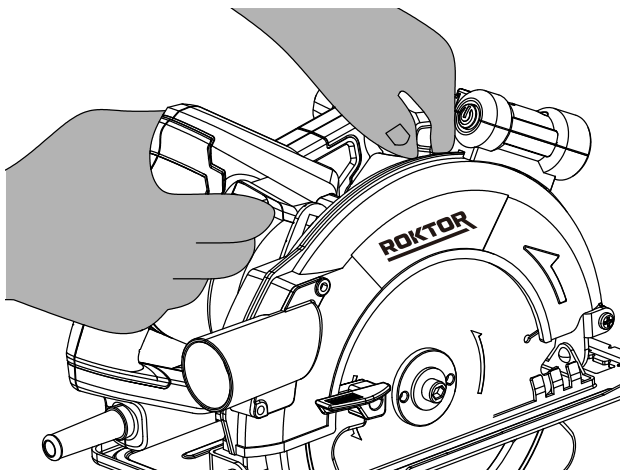

Figure 10
4. HAND GRIP AREAS (SEE FIG. 10)